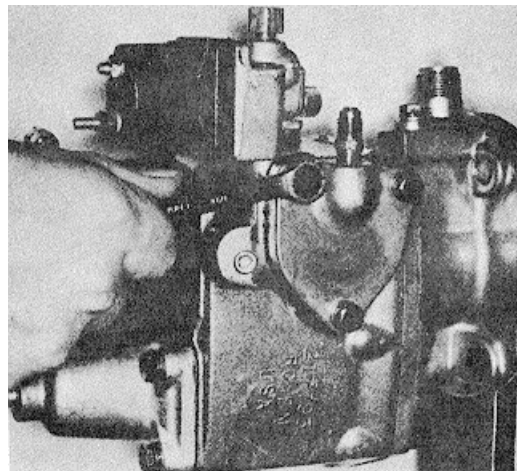

Fig. 5-24, F5301. Removing AFC side cover plate
1. Remove AFC cover plate. Fig. 5-24.
10. Line up bellows holes with housing and cover plate holes, install capscrews and washers. Capscrews are to be tightened to 30 to 35 in-lbs [3.4 to 4.0 N•m] torque after setting AFC on test stand. Fig. 5-24.